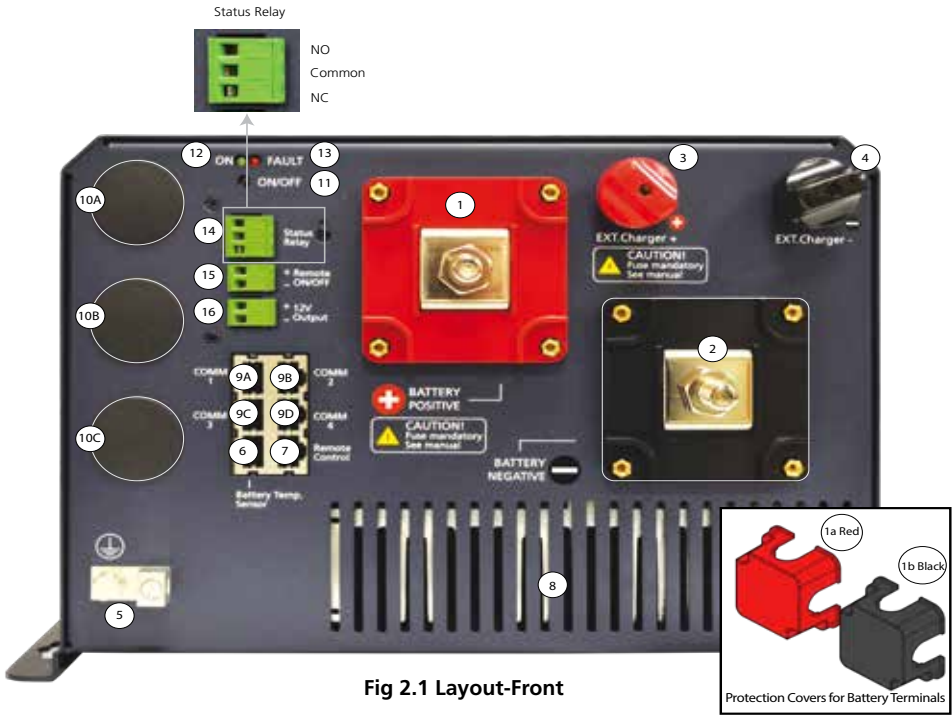

Fig 2.1 Layout-Front
2.1 MAIN UNIT: LAYOUT-FRONT (FIG 2.1)
- DC Terminal Covers (1a, 1b: Fig 2.1) (Fitted on the unit with 2 screws each)
- Mating Connectors (14, 15, 16: Fig 2.1)